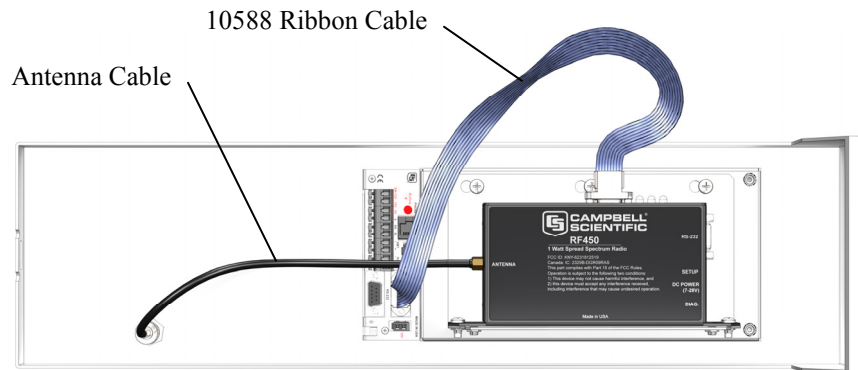

FIGURE 2.5-5. RF450 in T107 (battery not shown)
1. Mount the RF450 bracket and radio into the ET enclosure using the three existing screws. See Figure 2.5-5.
2. Thread the smaller SMA connector end of the enclosure antenna cable underneath the battery cables and screw it to the RF antenna connector on the RF450 radio. Attach the other end of the cable to the BNC RF bulkhead connector in the lower right hand corner of the enclosure. Make sure all connections are tight. See Figure 2.5-5.